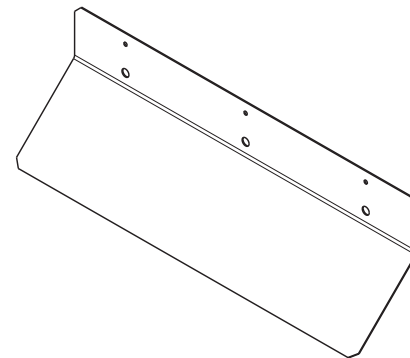
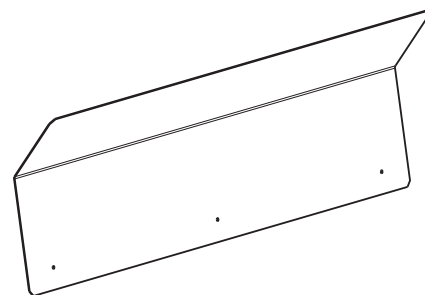

Fig. 70 — Air Baffle (14 in.)
Fig. 71 — Baffle (30 in.)
6. Install inlet baffle on the access panel with the screw(s) provided. See Fig. 70 for 14 in. baffle and Fig. 71 for 30 in. baffle. Attach 14 in. baffle from the outside of the access panel. The 30 in. baffle should be installed from inside of the access panel. Secure with three screws.